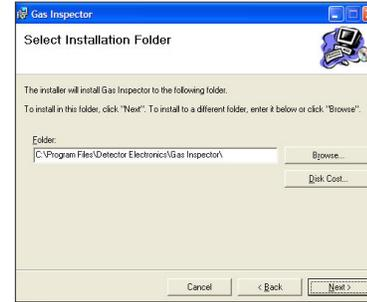

Figure 7—Install Destination
- Choose a destination (Figure 7) for installing Gas Inspector Monitor, then click *Next* to continue.